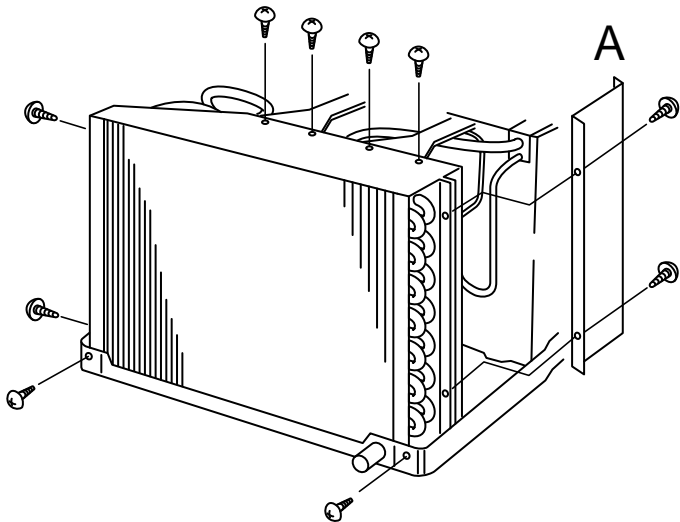

Fig. 12
- (1) Remove splasher plate A fixed to the condenser. (Fig. 12)
- (2) Remove other screws holding the condenser. (Fig. 12)
- (3) Grasp lower portion of the condenser with both hands and tilt it slightly and lift it carefully from the base pan so as not to distort the copper tube.